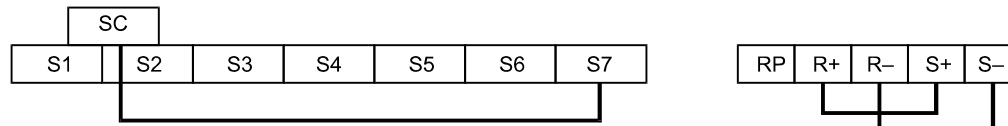

Fig 6.81 Communication Terminals Wiring for Self-Diagnosis
3. Perform the wiring according to Fig 6.81.